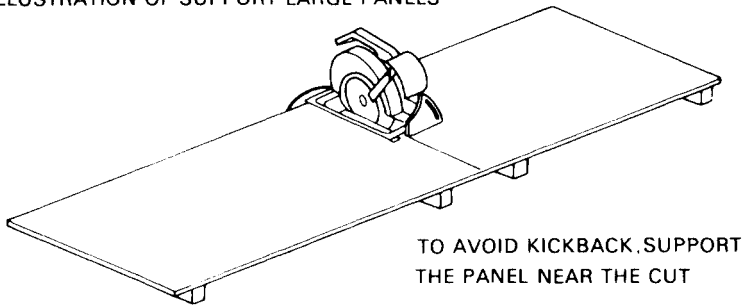

Fig. 1
- 37. SUPPORT LARGE PANELS.** Large panels must be supported as shown in **Fig. 1** to minimize the risk of blade pinching and kickback. When cutting operation requires the resting of saw on the work piece, the saw shall be rested on the larger portion and the smaller piece cut off.
Support large panels as shown in **Fig. 1**.